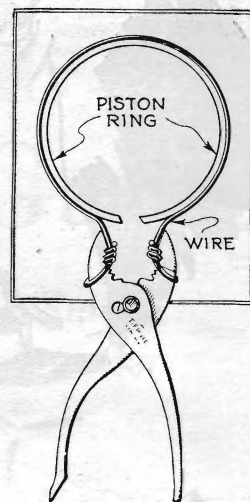

Fig. 4. Novel piston ring compressor made from pliers.
W. Conway, of Syosset, N. Y., wins this month's \$10 prize for his suggestion of a piston ring compressor, shown in Fig. 4. Each month **POPULAR SCIENCE MONTHLY** awards \$10, in addition to regular space rates, for the best idea sent in for motorists. Other contributions used are paid for at the usual rates.
FIGURE 4 shows an effective piston ring compressor made of a pair of adjustable pliers and a piece of strong iron wire. Success depends on how carefully you fit the ends of the wire to the jaws of the pliers. By fitting the wire so that the ring stands at right angles, it is possible to use this compressor in close quarters.